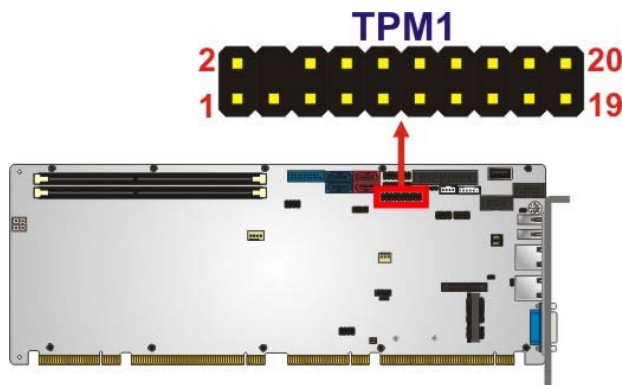

Figure 3-26: TPM Connector Location
- CN Location:** See **Figure 3-26**